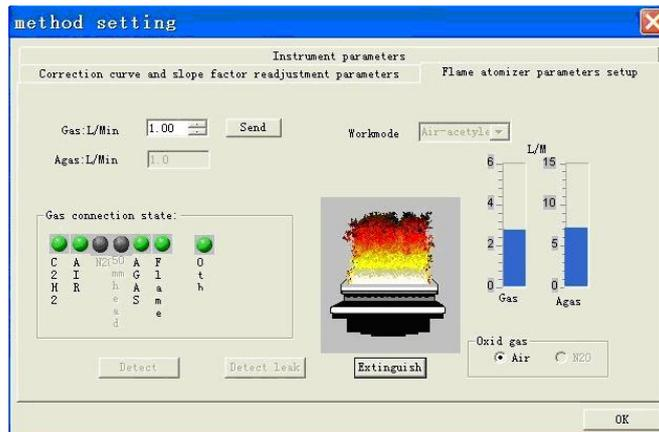
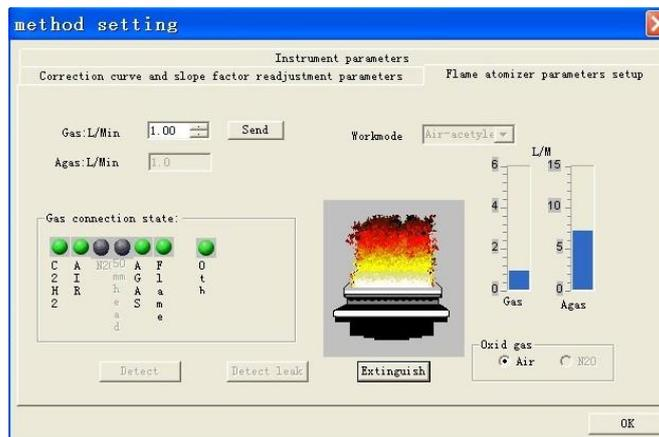

Figure 4-50c
Figure 4-50d
3. Enter a proper value in the "Fuel gas" field, or move the cursor onto the arrows. Press the up arrow to increase the value (larger flow rate), or press the down arrow to decrease the value (lower flow rate). Press the "Ignite" button until the flame appears. When a flame is just ignited, the flame is high. See Figure 4-50c. The flame will reach the normal state after a few minutes. See Figure 4-50d.